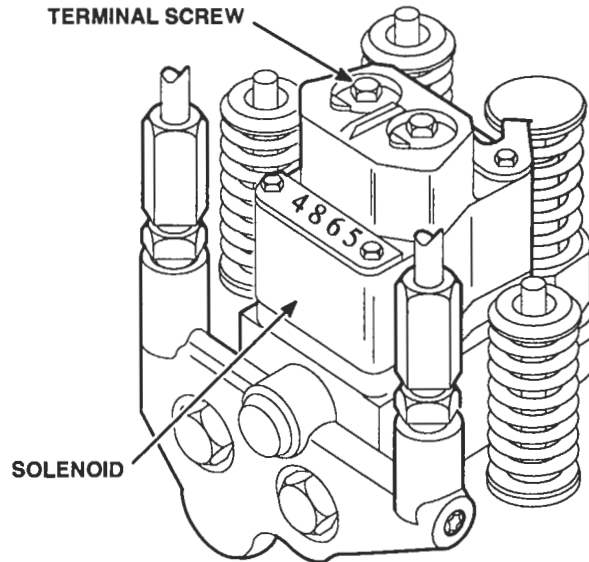

Figure 4. EUI Injector Solenoid Location
2. Loosen four hex head screws and remove old solenoid (Figure 4.) Discard solenoid, load plate, follower retainer, and screws. *Do not reuse old screws.*
4. Install new seal in spacer groove and position spacer on body with seal facing down (Figure 4.) Seal may be retained in groove with small quantity of grease.